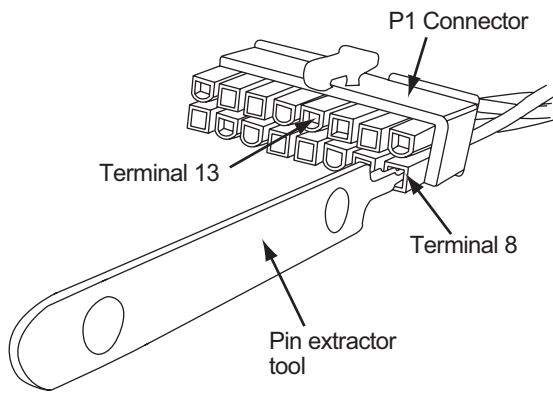

Figure 34. Disconnecting thermistor from P1 connector
2. Insert a pin extractor tool (Figure 34, page 39 shows a Molex 11-03-0044 REV D) into the terminal side of connector in terminal 8. See Figure 34, page 39. Terminals are labeled on connector and thermistor wires are solid white.
- c. Connect wires to P1 connector terminals 8 and 13. See Figure 34 for terminal location.